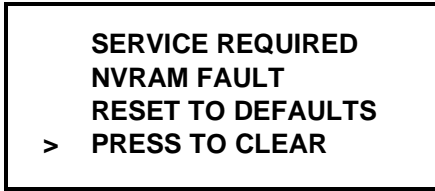

Figure 91
4. During the program initialization, (Language, System Data, Config Data, Lockout Data) the RESET TO DEFAULTS message will display on the screen. (See Figure 91.)